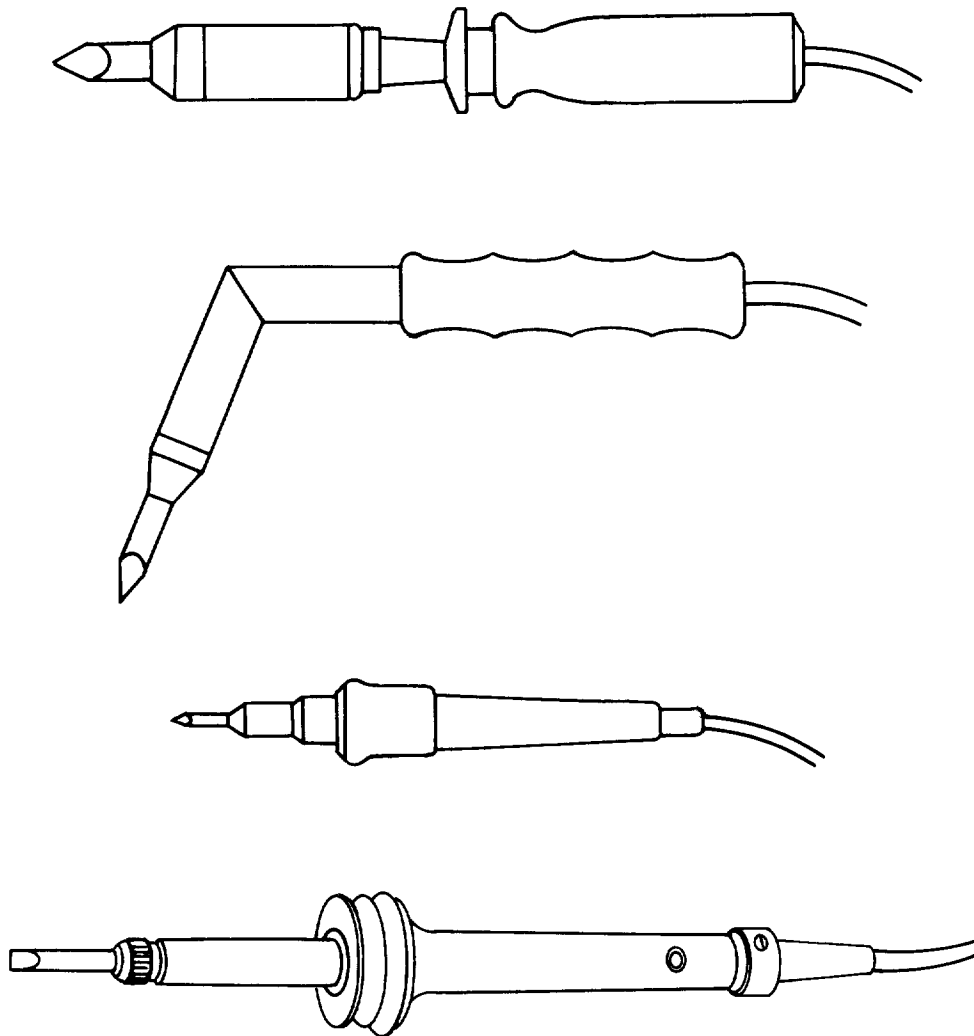

Figure 1. Types of Hand Soldering Irons (Typical)
29. **Soldering Iron.** Hand held, electrically heated soldering irons are the most commonly used tools to accomplish solder joining on aircraft or components. Soldering irons are available in different sizes, wattage, shape, angles, and tip selection. It is necessary to use the correct tool and soldering irons must be matched to perform the job correctly. Soldering irons must be selected to do the task assigned as quickly and efficiently as possible. Examples of typical soldering irons are illustrated (Figure 1).